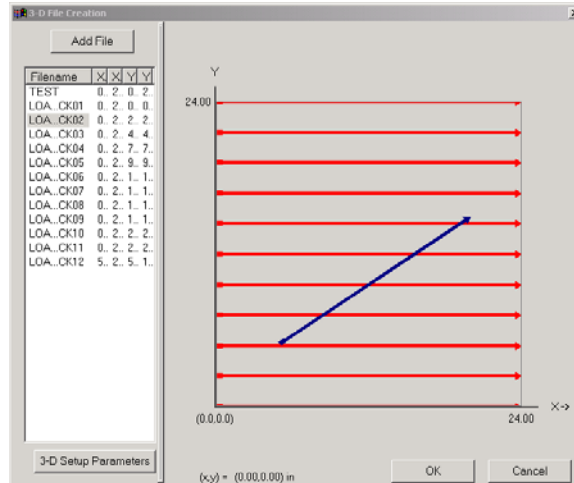

Figure 143: 3-D file being created from a series of regular profile lines and one crossing profile line
**Files collected at angles relative to the X and Y-axes:** Figure 143 shows a 3-D file that will be created from a series of regularly spaced profile lines and one profile line at an angle that is not perpendicular to them.